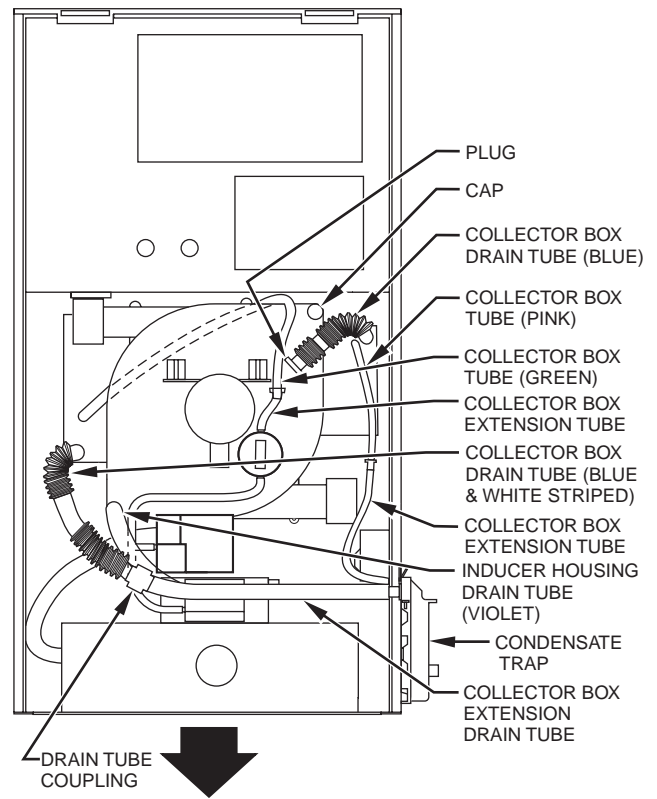

Fig. 9—Downflow Tube Configuration (Right-Hand Trap Installation)
- (3.) Route extended collector box drain tube directly from collector box drain to condensate trap as shown in Fig. 9.
- (1.) Route inducer housing drain tube (violet label) directly from inducer housing to condensate trap as shown in Fig. 9.